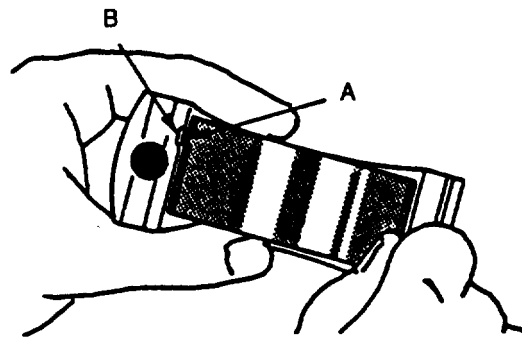

FIGURE 3-150. Installing Connecting Rod Cap Bearing
- f. Install other bearing insert in connecting rod cap with tang (A, FIGURE 3-150) in groove (B). Put clean engine lubricating oil (MIL-L-2104) on insert.